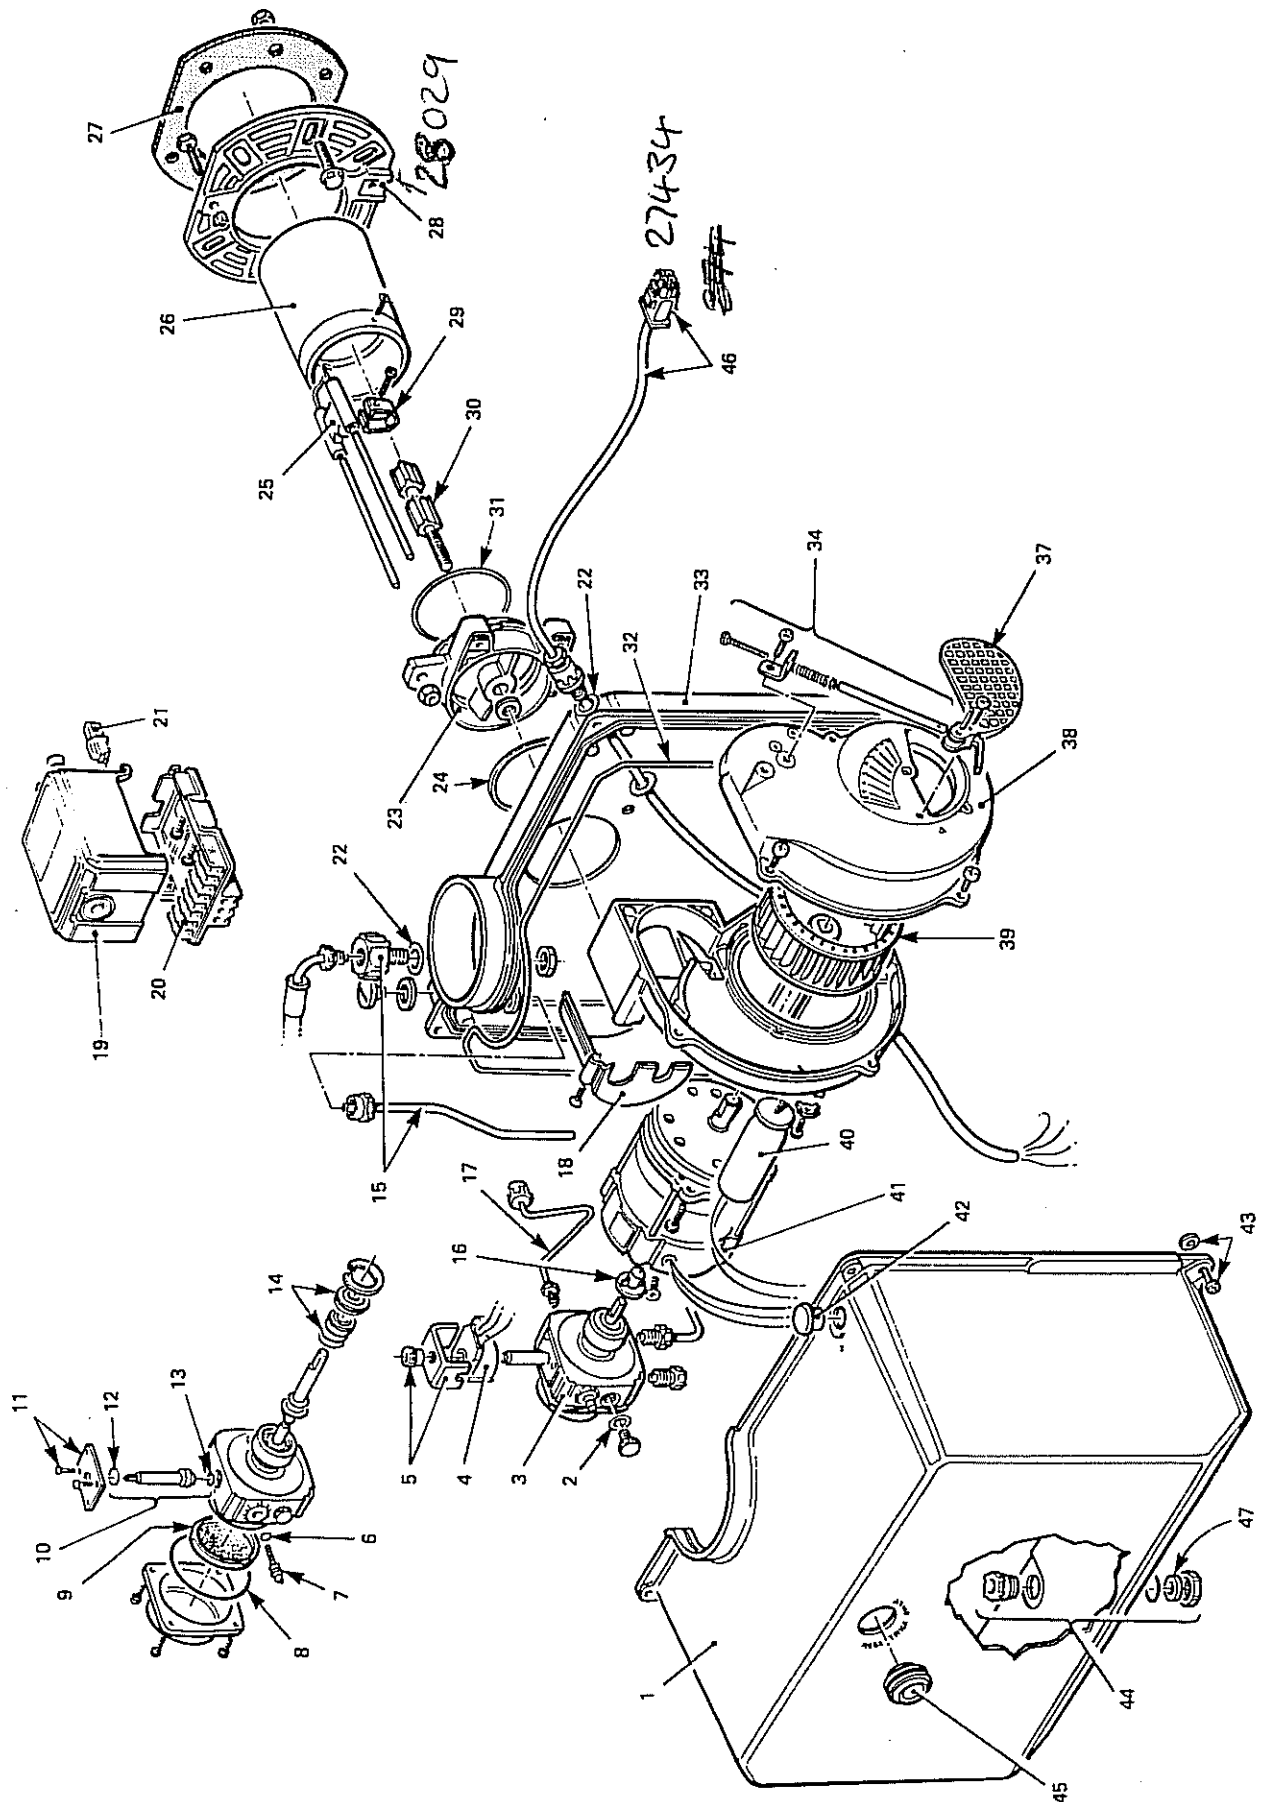

FIG. 25 RIELLO BURNER EXPLODED VIEW
1. Remove flue-cover and lift out flue-baffles (see Fig. 25).